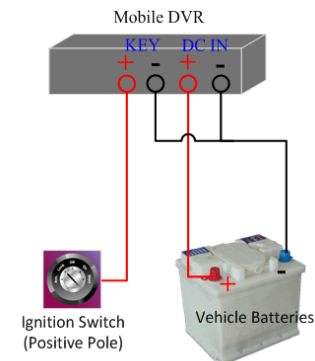

Fig 2.6 KEY connect with positive ignition switch
(1) Connection of Positive Pole Switch (Fig 2.6):